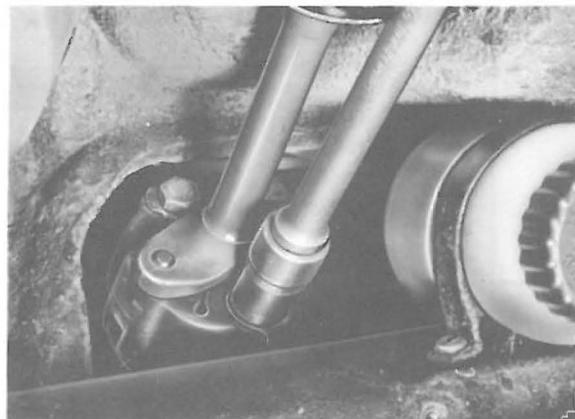

Fig. 68
7. Install steering coupling retaining bolts, using new safety washers, and torque to 2, 5 mkp (18, 1 lb/ft). See Fig. 68